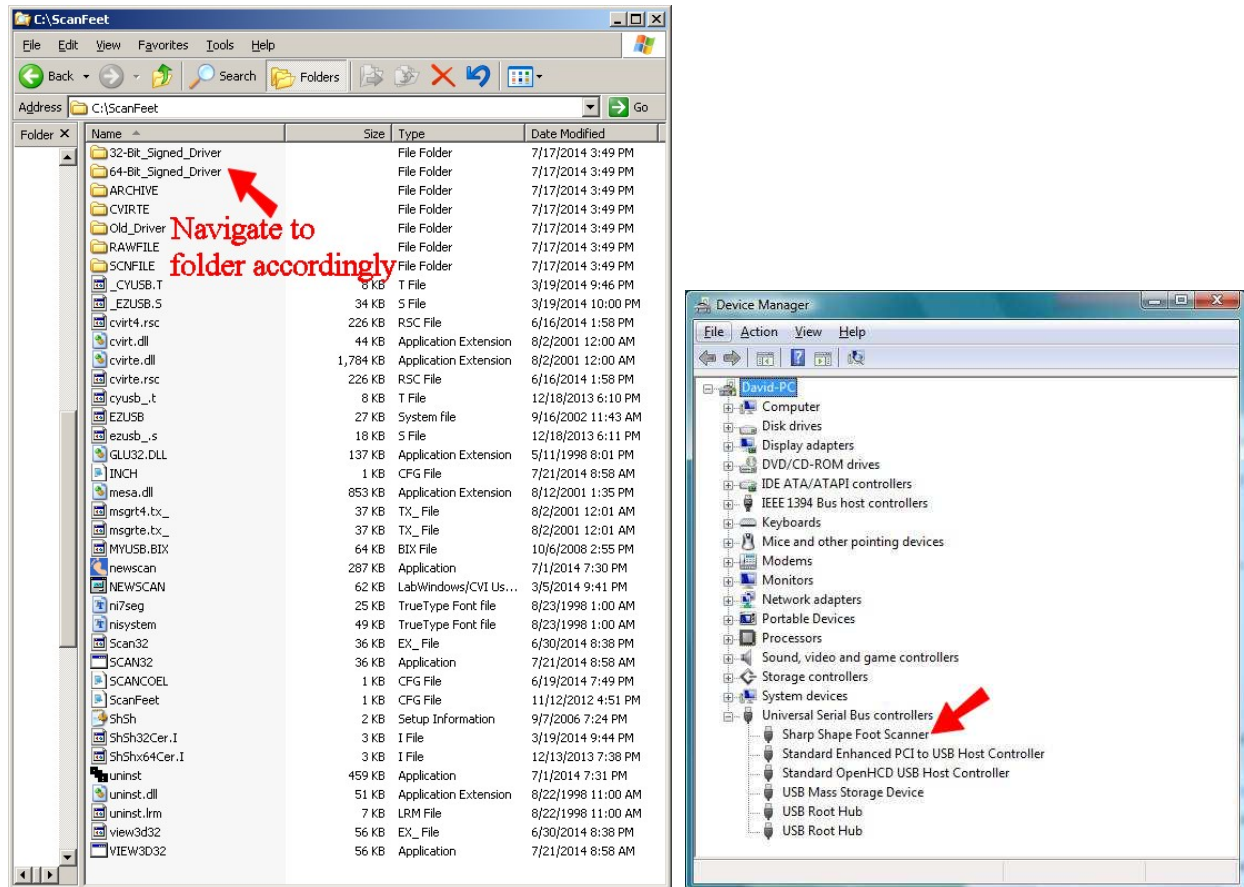

Figure 14. File/Folder structure (left) and Device Manager contents (right)
After installing the scan program, the files (including driver files) are installed under C:\ScanFeet. The file and folder structure is shown in Figure 14 (on left).
After that, the driver will be listed in the Device Manager as 'Sharp Shape USB Scanner' (refer to Figure 14 - right). Windows will not ask for a driver again the next time you plug in the scanner to the same computer.
To check the integrity of the scanner, go to Device Manager when the scanner is plugged in. You should find the "Sharp Shape Foot Scanner" as shown above in Figure 14 - left. If it is not properly installed, you need to uninstall it and re-install the driver as instructed above.
3. After the scanner is plugged in and powered on, check Device Manager to see whether you have Sharp Shape USB Scanner in there (see Figure 14 - right). Treat problem if it is not alright.